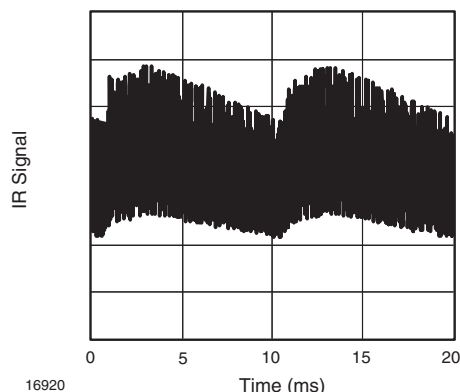

Fig. 14 - IR Disturbance from Fluorescent Lamp with Low Modulation
- Strongly or weakly modulated patterns from fluorescent lamps with electronic ballasts (see figure 14 or figure 15)